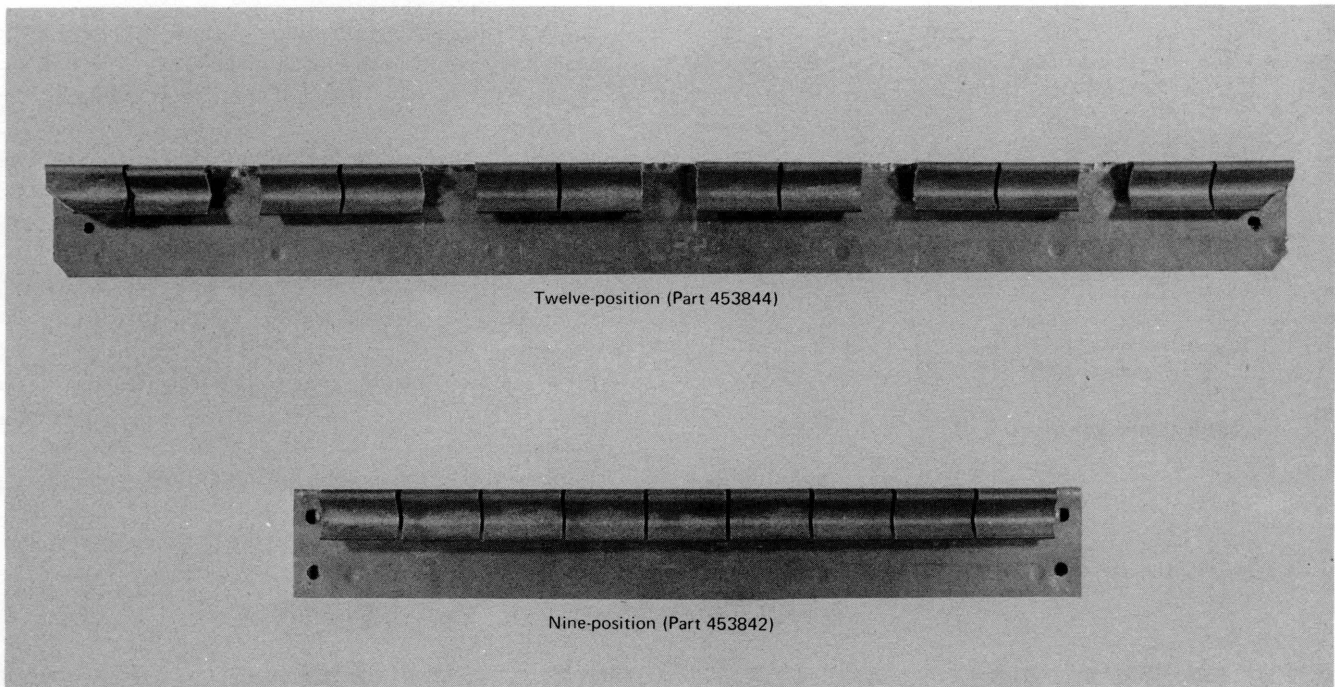

Figure 2-27. Gang Bracket Holders
2. Take the populated gang bracket and snap it into the gang bracket holder. Part 453842 (9 positions) is used for vertical I/O housings and part 453844 (12 positions) is used for horizontal I/O housings. See Figure 2-27.